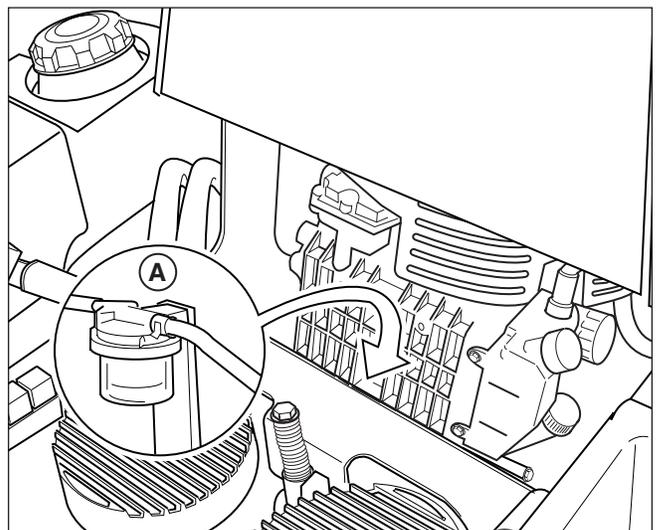

Figure 35. Fuel System Priming
3. When the fuel filter (A, Figure 35) is free of air bubbles the engine is ready to start.